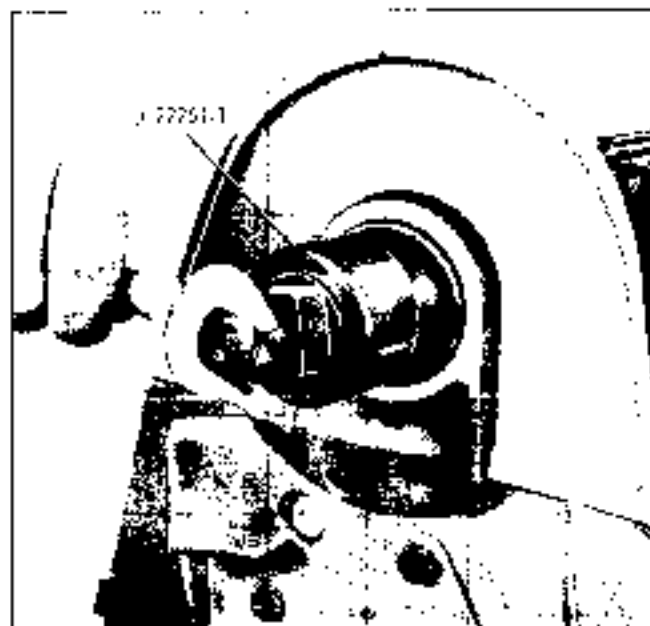

Fig. 6-13 Removing Camshaft Seal
7. Thread bolt J 22261-2 into camshaft seal (Fig. 6-13).